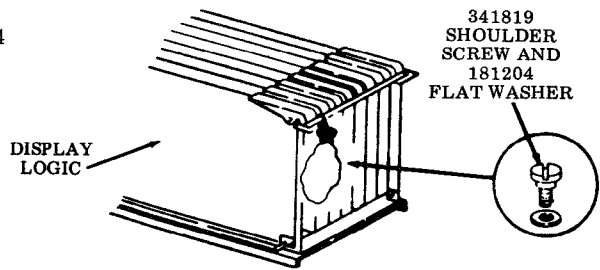

Fig. 26
Step 8 — Remove muslin bag containing the 341819 shoulder screw and 181204 flat washer used to mount the display logic into the frame and retain for later assembly (Fig. 26).